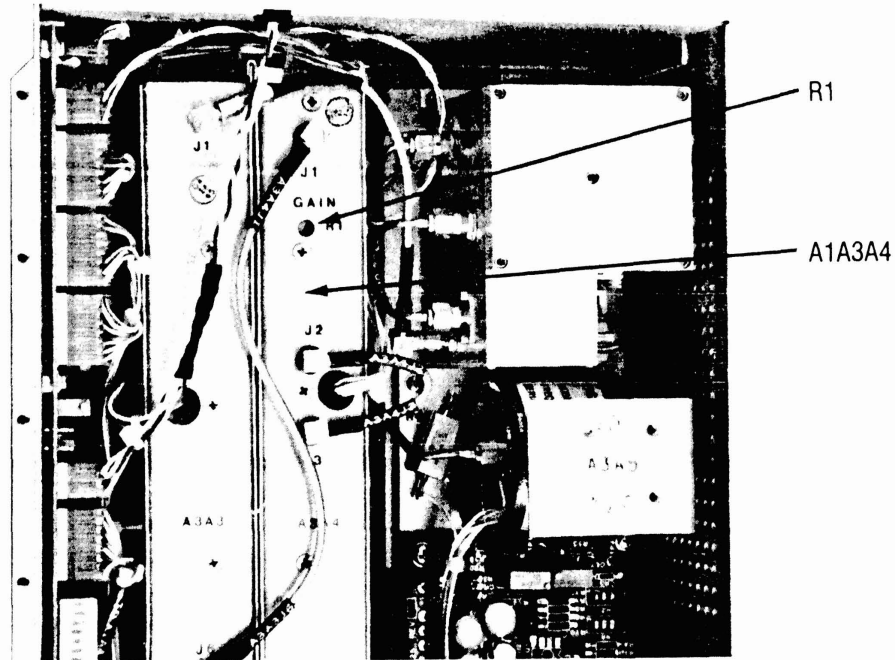

Figure 3-18. LOCATION OF R1 OF A1A3A4
20. Add some smoothing until 4 or 5 light bars are lit in the smoothing indicator. Then adjust resistor R1 on assembly A1A3A4 to obtain a reading in Window A of 3.0 volts, $\pm .01$ volts. This sets the IF gain of the 2075. See Figure 3-18 for the location of R1.